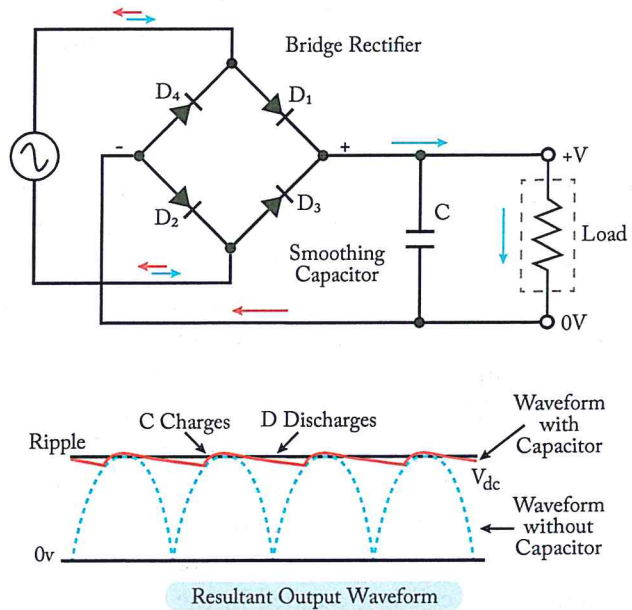

Figure 1-48. A capacitor filters out the pulses providing a pure DC output voltage.
Power supplies consist of rectifier circuits with smoothing circuits at the output to provide pure DC voltage. A smoothing capacitor (*Figure 1-48*) filters out the pulses from the output waveform. It does this by charging the capacitor during the rise of each pulse, and then discharging the capacitor during the fall of each pulse, resulting in a pure DC output voltage. The time required to charge the capacitor through the resistor to 63% and then discharge it to 37% is called a time constant (T), and is determined multiplying the capacitance (in farads) by the resistance (in ohms): $T=RC$ More elaborate smoothing circuits have RL tank circuits that act as low pass filters.